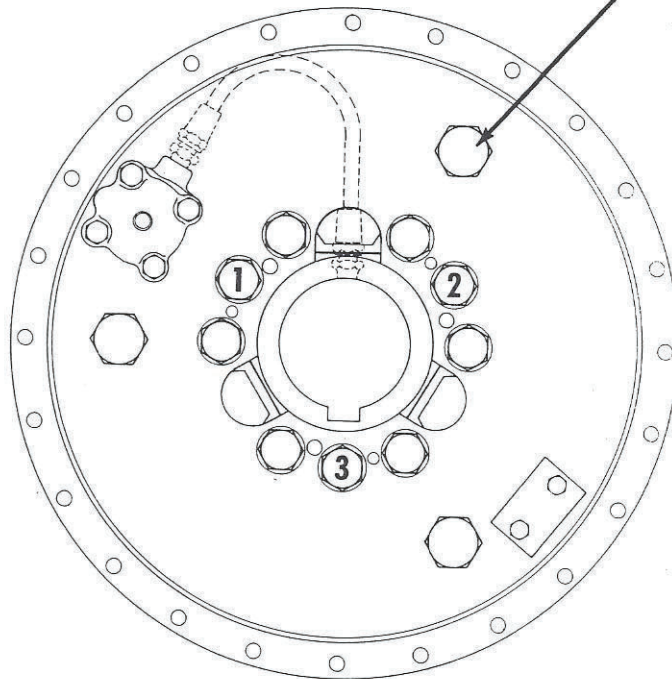

Figure 3-2. Emergency Mechanical Clutch Lockup.
The design incorporates a mechanical means to engage the clutch for emergency operation should conditions warrant. Three special short capscrews (Figure 9-3, 20) are removed from the front cover plate (19), and three main capscrews (25) (See Figure 3-2 for the location of these screws) are transferred to the short capscrew holes, and tightened in position.